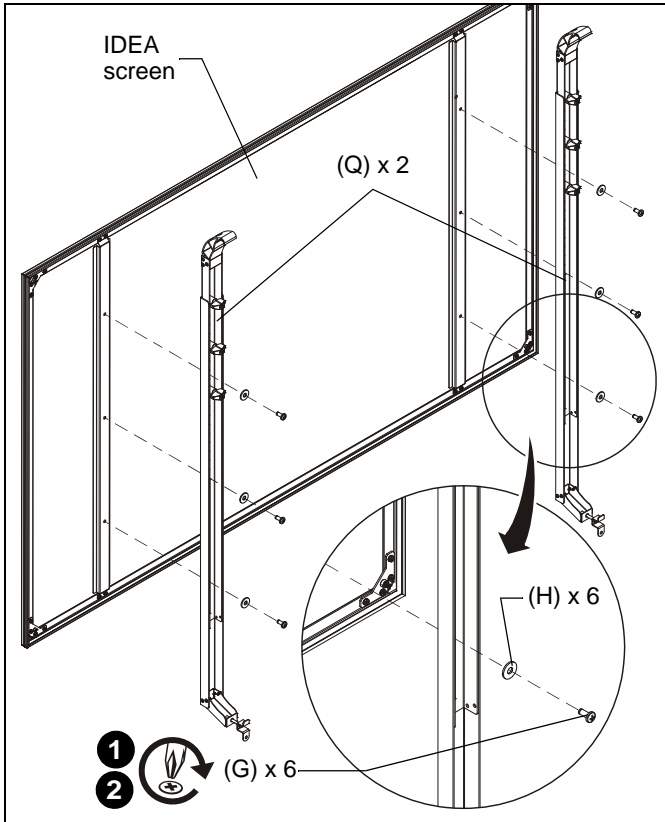

Figure 5
1. Attach upright assembly (Q) to back of screen using three 1/4-20 x 1/2" Phillips pan head screws (G) and three 1/4" washers (H). (See Figure 5)
2. Repeat for second upright assembly. (See Figure 5)